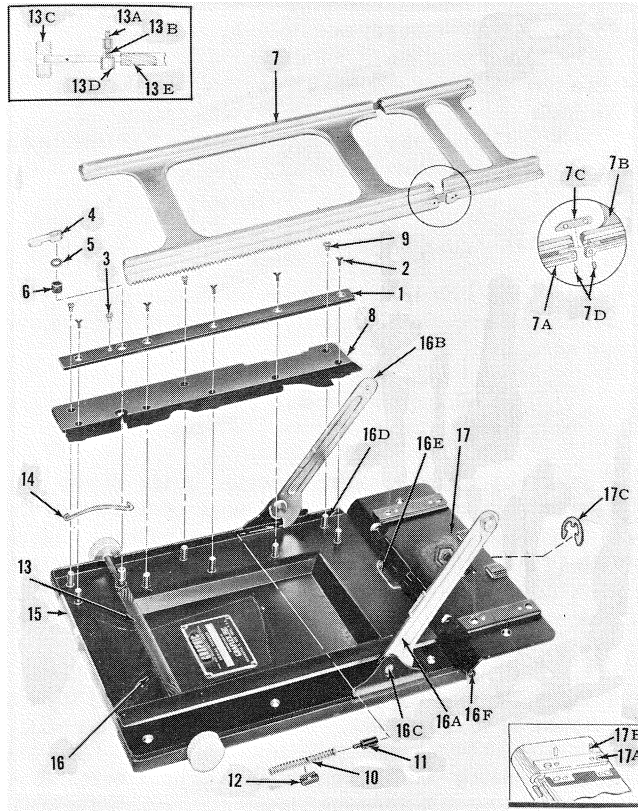
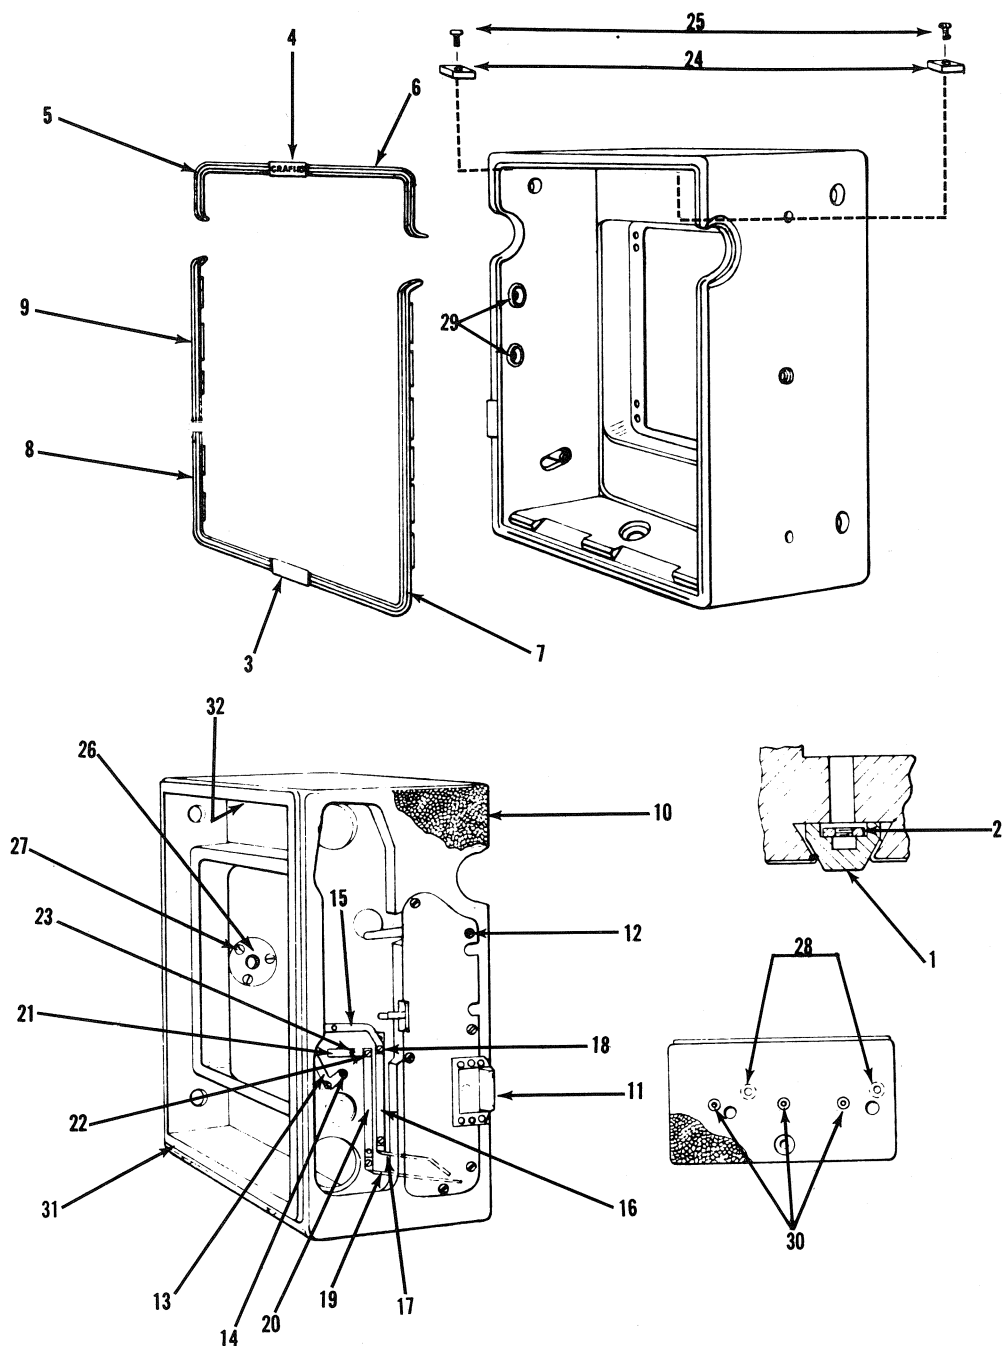

Figure 20. Bed Complete
Figure 21. BODY COMPLETE
Key to Figure 20.
c) From the bed hinge, remove two wood screws (38). Remove four yoke guide case screws (39) that are screwed into machine nuts (2, figure 21) located in the case feet (1).
b) Remove the bed section guide (1, figure 20) by removing machine screws (2).
c) Rack the yoke assembly (7) forward until the rear case yoke section is free of the hinge guides. Lift the yoke assembly (7) from the bed.
d) Remove block screws (9, figure 20) from the bed block (8). When the bed block is lifted from its position care should be taken so that the bed brace spring (10) does not throw and lose the bed brace plunger (11).
e) Swing the yoke lock lever (4, figure 20) clockwise so that the special fillister head screw (3) can be removed. Unscrew the yoke lock lever (4). Remove the flat washer (5) and the yoke lock sleeve (6).
g) Lift the pinion assembly (13) from the bed. Do not lose the focusing pinion springs (14) at each side.
a) The case section guide (17A, figure 20) should have the sliding grooves wiped with a film of the above lubricant.
b) Assemble the case section guide (17A) to the hinge assembly (17) by using two dowel pins (17B) in each guide.
Pinion assembly (13, figure 20) should be lubricated by wiping the small diameter of the shaft at each end with a reasonable amount being applied to the helical gear teeth.
The yoke assembly (7, figure 20) should have its guide edges wiped with lubricant and a reasonable amount applied to the gear teeth. Roll the yoke assembly (7) over the pinion assembly (13) to distribute the lubricant evenly and wipe off all excess.
a) To assemble the bed block (8, figure 20) insert the stud of bed brace plunger (11) into the bed brace spring into space provided on the under side of the bed block and hold in position by use of the spring retaining clip (12) that clips around the spring and over the rib on the bottom of the block. Check the position of the focusing pinion spring (14) so that it will fit in the block cavity that is provided. Lower the block into position over the guide and block screw bushings (16D). Be sure that the edge of the leather is tucked in between the block and the bed. Assemble three bed block screws (9).
a) Assemble the right bed section guide (1, figure 20) and attach with five machine screws (2).
b) Insert the yoke lock sleeve (6) and assemble the flat washer (5), if required. This flat washer is a spacer washer that may or may not be needed, depending on the position of the yoke lock lever when it is assembled.
c) Assemble the yoke lock lever (4) and tighten. Note the position and if the lever does not tighten in convenient position it should be removed and the thread started in a different position; it has a triple
d) After the yoke lock lever position has been found to be satisfactory, assemble the special fillister head screw (3).
b) Position the left bed section guide and assemble five machine screws (2, figure 20).
c) With the bed section guide screw (2) loosened on both sides, slide the yoke back so that the case section will partially engage in the case section guide (17A). This will center the front section in relation to the case section. Draw both bed section guides (1) together evenly with the fingers and tighten the guide screws (2) on both sides.
a) Place the bed in position in the camera case and reassemble four yoke guide case screws (39, figure 3) that are screwed into the machine nut (2, figure 21) located in the foot (1). Assemble two wood screws (38, figure 3).
b) Engage each bed brace (16A and 16B, figure 20) with its proper bed brace plate (34 and 35, figure 3). Allow the bed brace arm to slide freely in the slot and assemble the mounting screw in the old mounting hole.
c) Next check the top surface of the yoke assembly (7, figure 20). If the top surfaces of the yoke guide are not level, the front standard will not slide smoothly on the yoke. If necessary, shim the case section guide as follows:
1. Remove the release slide plate (11, figure 21).
2. Remove the right focusing knob escutcheon (51, figure 3) that is held by escutcheon pin (52). Pry up the right moulding (9, figure 21) and the right edge of the lower right moulding (8).
6. Remove six wood screws (12, figure 21) that secure the body release plate assembly (11), and remove the plate assembly.
2. Inspect the short and long switch contacts (17 and 19, figure 21). These contacts complete the focal plane synchronization circuit and are closed by pressure action of the long lever inside the plate that has the insulated spring terminal bushing. If this insulated bushing has become worn so that the lever might make contact with the short switch contact (17) the body release plate assembly (11) must be replaced.
1. Position the body release plate assembly (11, figure 21) and assemble six wood screws (12).
1. To remove the side tripod socket (26, figure 21) it is first necessary to remove the right bed brace plate (35, figure 3) as described in paragraph V.B.2. Remove the three flat head wood screws (27 figure 21) securing the tripod socket.
Key to figure 21.